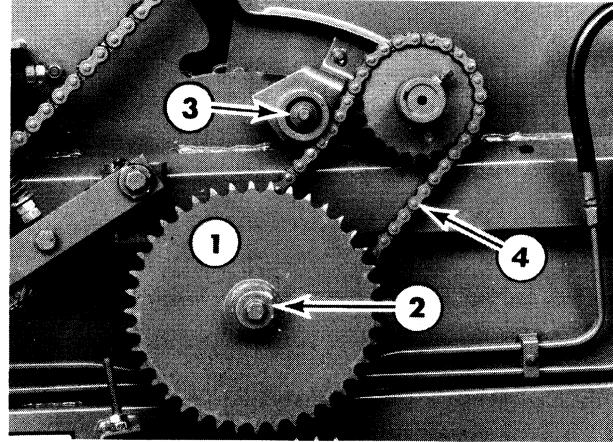

Figure 9-64
11. Install idler bracket, 3, Figure 9-64, and fixed pivot roll drive chain, 4.